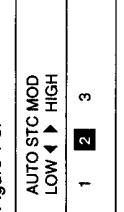

Figure 1-8 Dialog for automatic adjustment of STC
1. Press the [STC] key to show the dialogue shown in Figure 1-8.